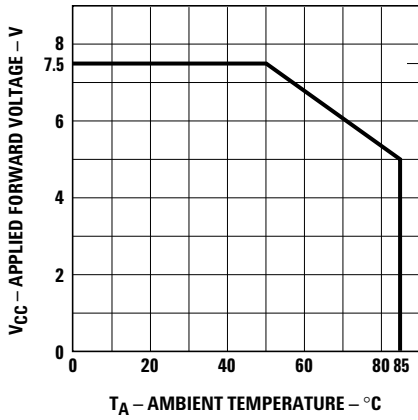

Figure 3. Maximum allowed applied forward voltage vs. ambient temperature  $R\theta_{JA} = 175^{\circ}\text{C/W}$ . 5 volt devices.
- Derate from  $T_A = 50^\circ\text{C}$  at 0.071 V/°C, see Figure 3.